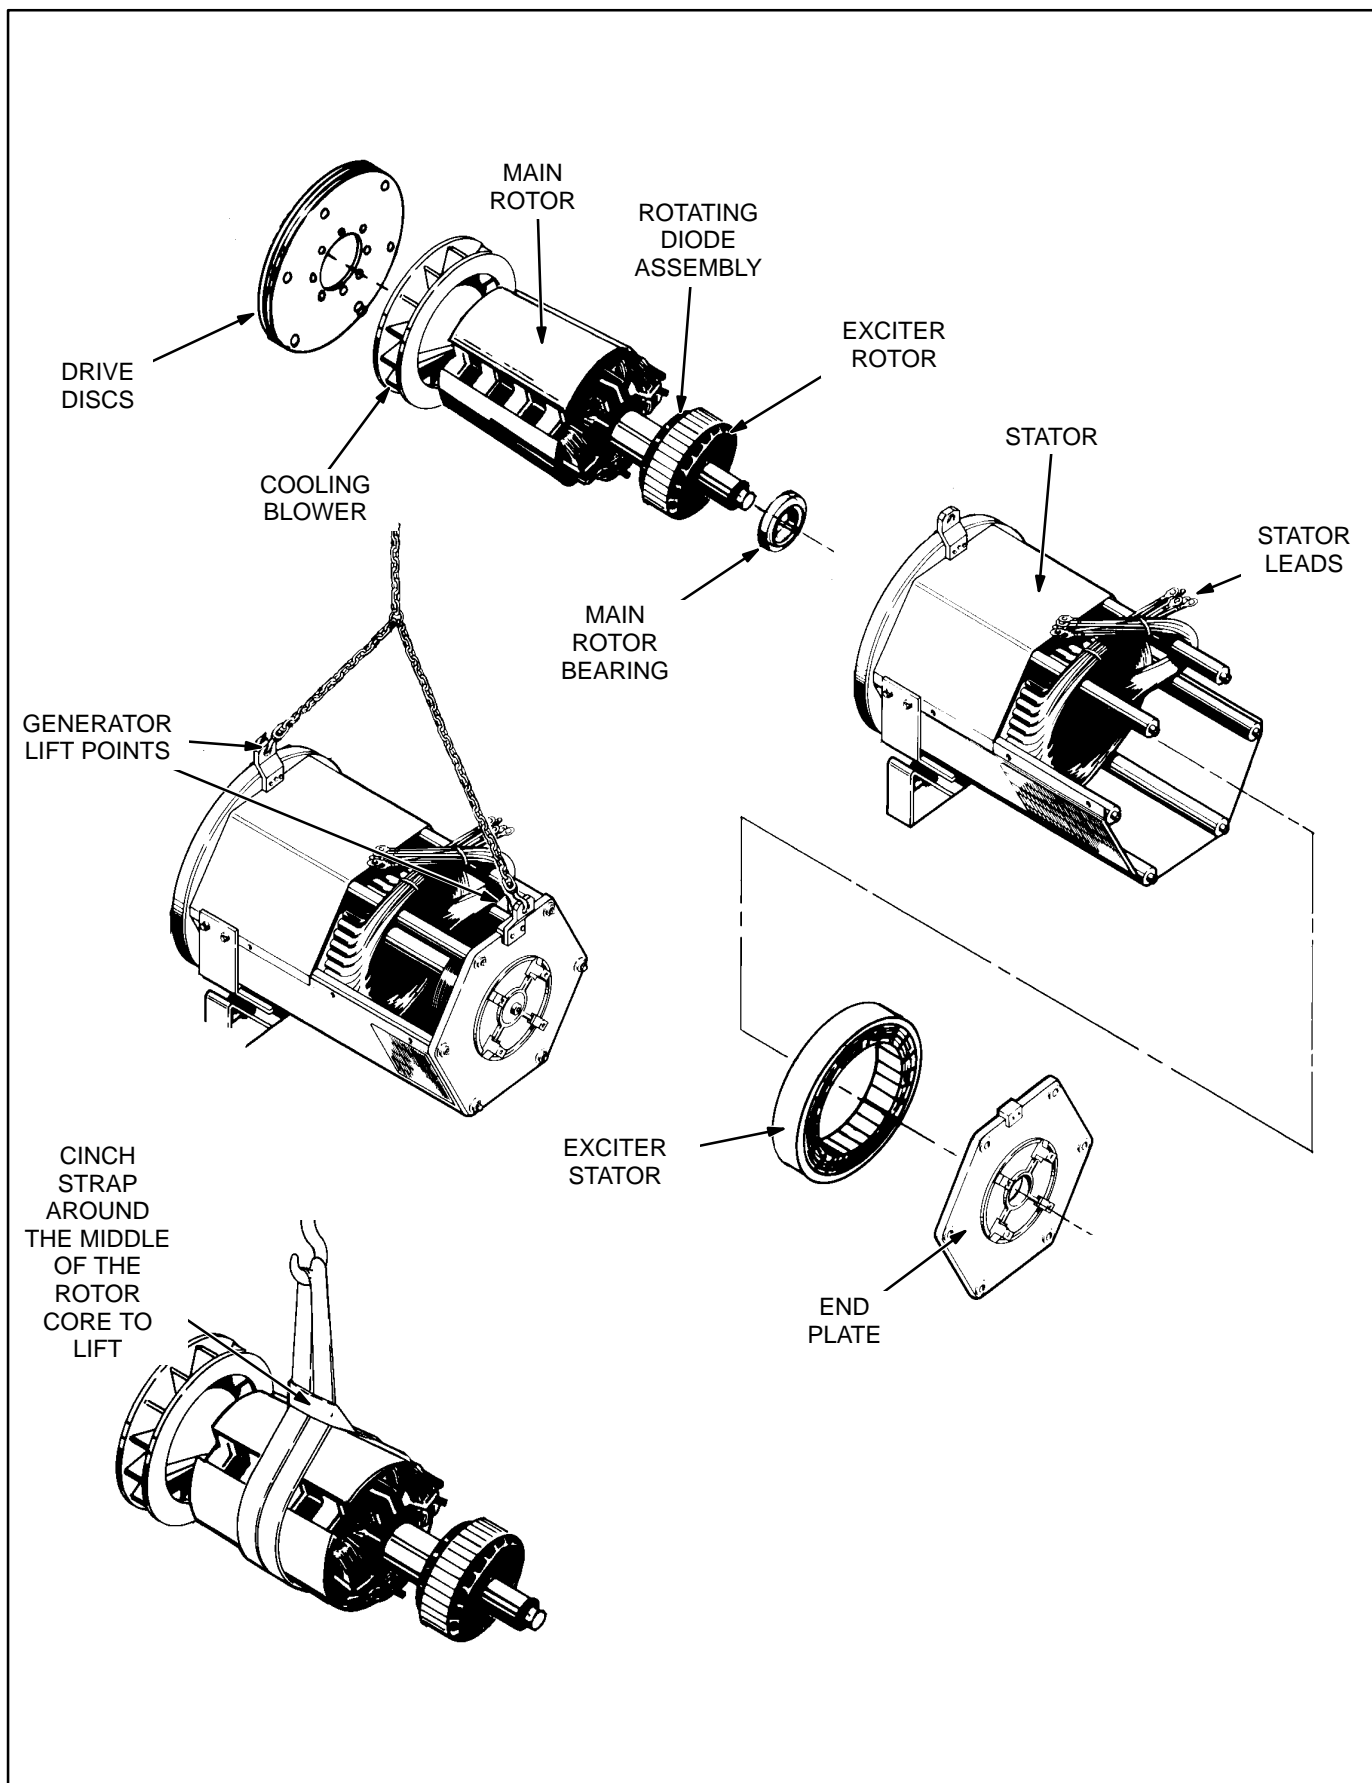

FIGURE 6-7. GENERATOR ASSEMBLY
2. Attach lifting eyes and a hoist of sufficient capacity (Figure 6-7).